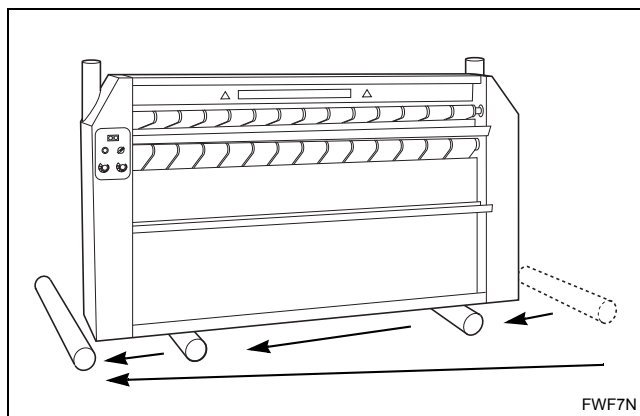

Figure 7
8. Slowly roll the finisher forward so that it comes off the first roller, stays on the second roller, and moves onto the third roller. Refer to *Figure 7*.